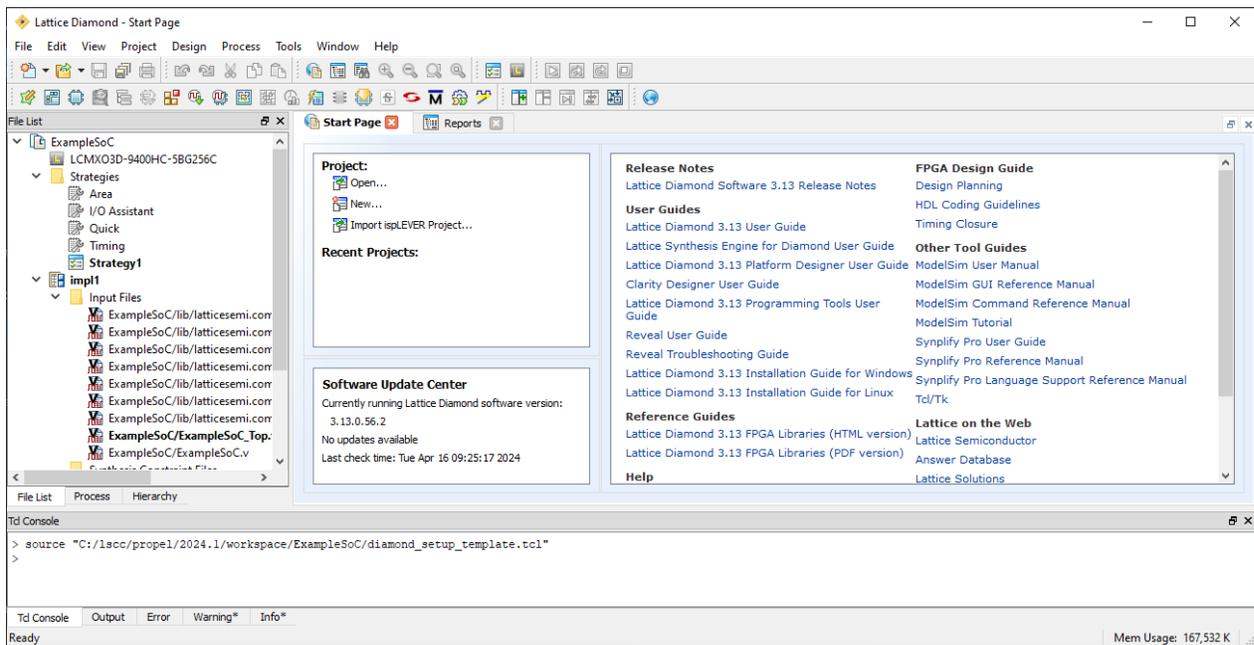
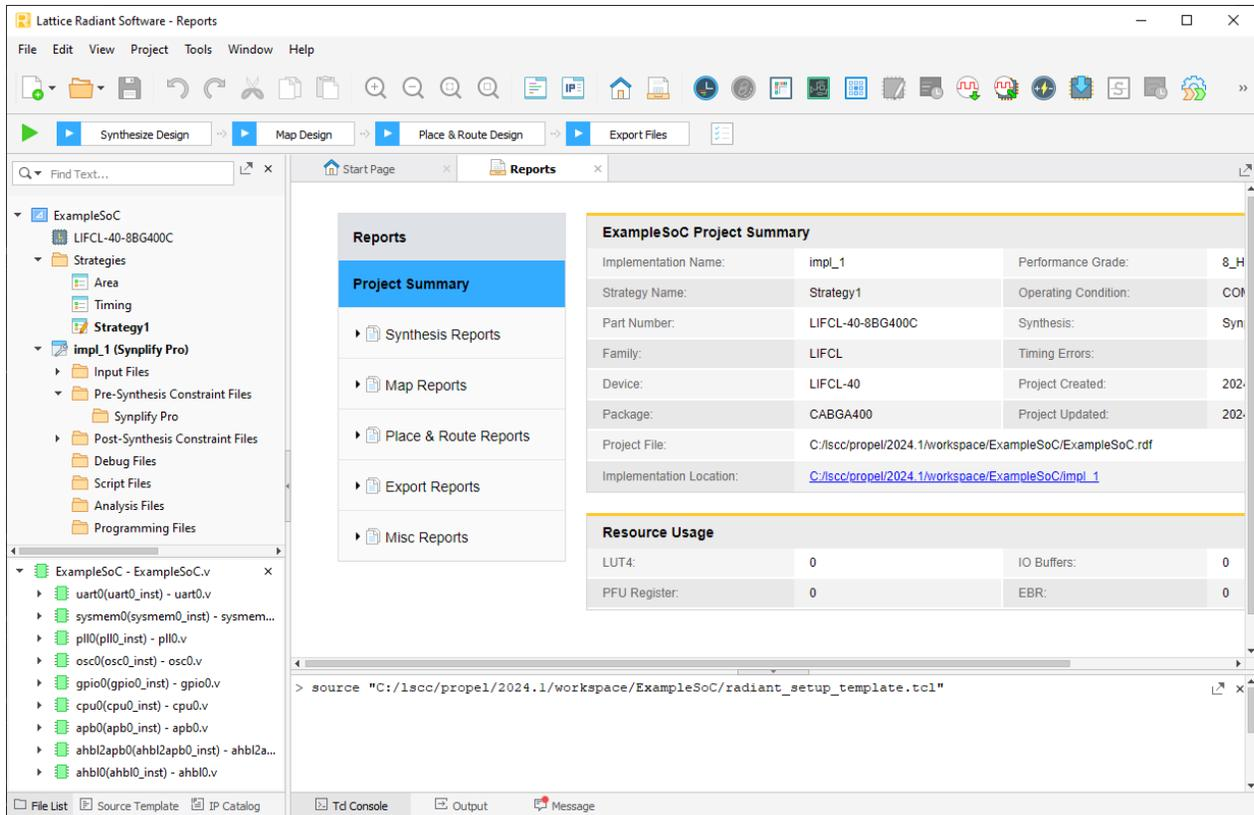

Figure 3.14. Diamond Project
Figure 3.15. Radiant Project
4. The Diamond/Radiant project for SoC is generated at background and is launched (Figure 3.14/Figure 3.15).